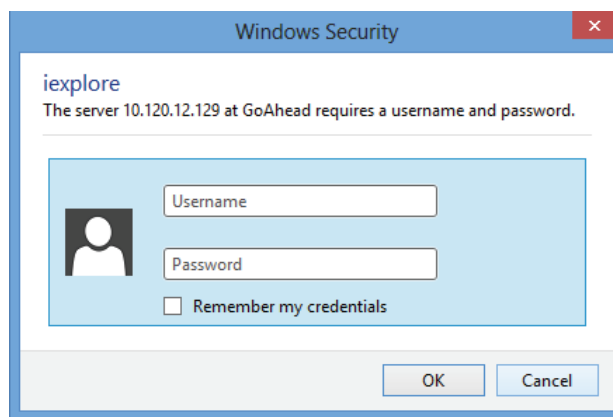

figure 41.2: Logon window
- 4 Click the *Continue* button to access the web interface. A screen similar to the one in figure 41.2 pops up.